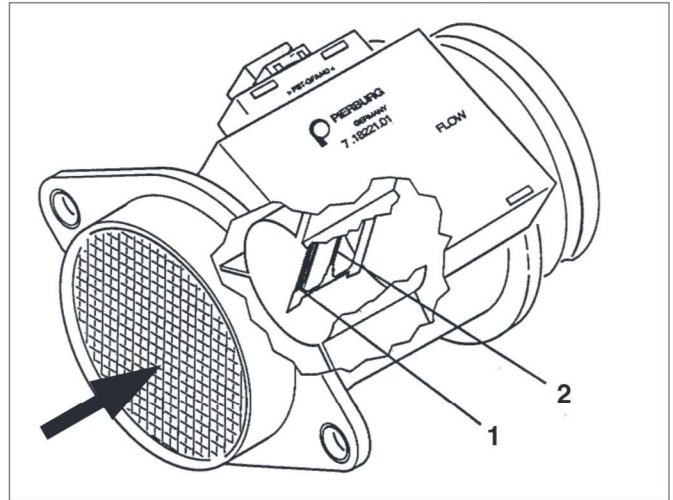

Fig. 2
4.1 Air mass sensor (LMS), fig. 2